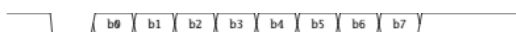

Figure 13.2: 被UART传输的一个字节
A serial port (also called UART or RS-232) is one of the easiest options to communicate between your laptop and an FPGA board. As the name implies, data is transmitted serially. An 8-bit byte is transmitted as follows: one start bit (0), the 8-bit data, least significant bit first, and then one or two stop bits (1). When no data is transmitted, the output is 1. Figure 13.2 shows the timing diagram of one byte transmitted.